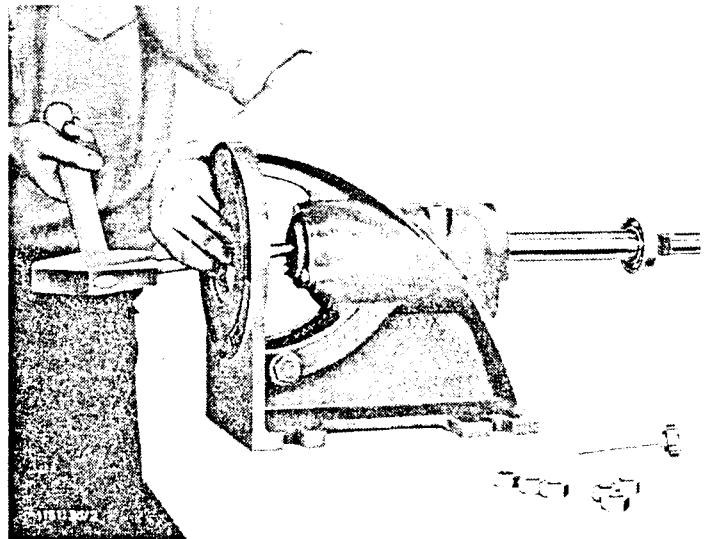

Fig. 19 Driving the shaft out of the bearing bracket
5. Remove oil dipstick (f) from bearing bracket, and carefully drive the shaft out of the bearing bracket with gentle taps – see fig. 19 – and remove it from the bearing bracket.